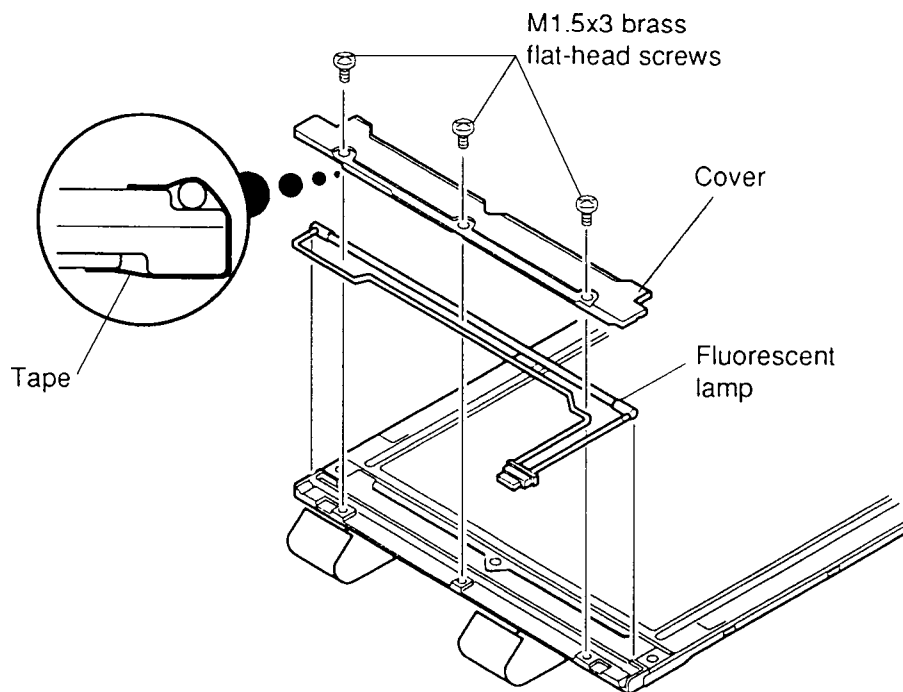

Figure 4-47 Removing the Fluorescent Lamp
To remove the T4500/T4600 fluorescent lamp, follow the steps below and refer to Figure 4-47:
To install the T4500/T4600 fluorescent lamp, follow the steps below and refer to Figure 4-47.
3. Secure the **FL cable** to the LCD module with **tape** as shown in Figure 4-47.